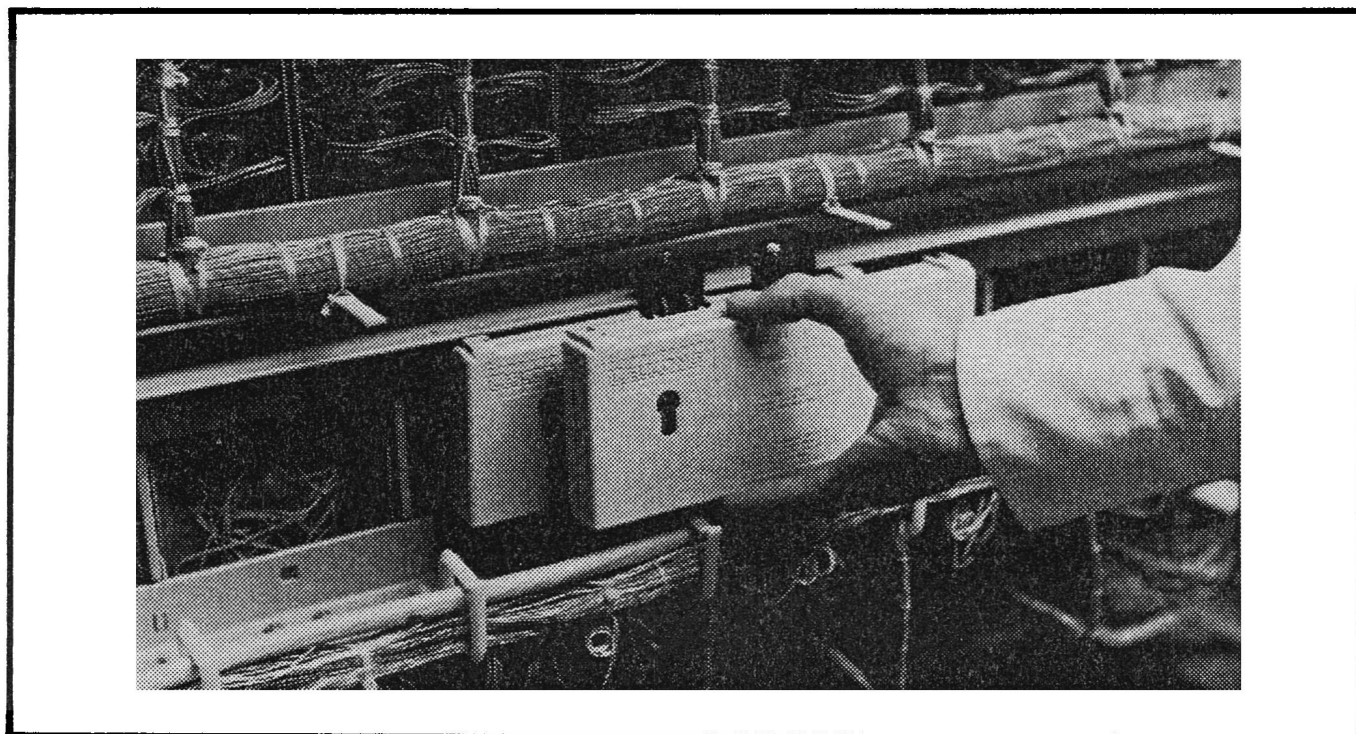

Figure 8 Second M-164-71 Secures to First Unit
6.17 The second unit is secured by slipping the retainers on the front into the keyslots in the back of the first unit as shown in Figure 8. When the second unit is being secured it will be necessary to press downward until the units are flush at the top and bottom. To separate the units later, the retaining clip at the center of the lower front edge of the second unit must be pulled toward the back as the unit is lifted up out of the keyslots.